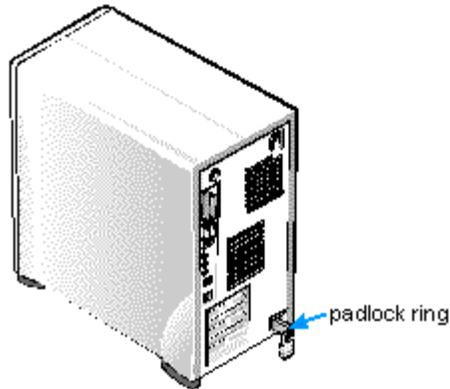

Figure 8-1. Padlock Installed
2. If you have installed a padlock through the padlock ring on the back panel (see Figure 8-1), remove the padlock.